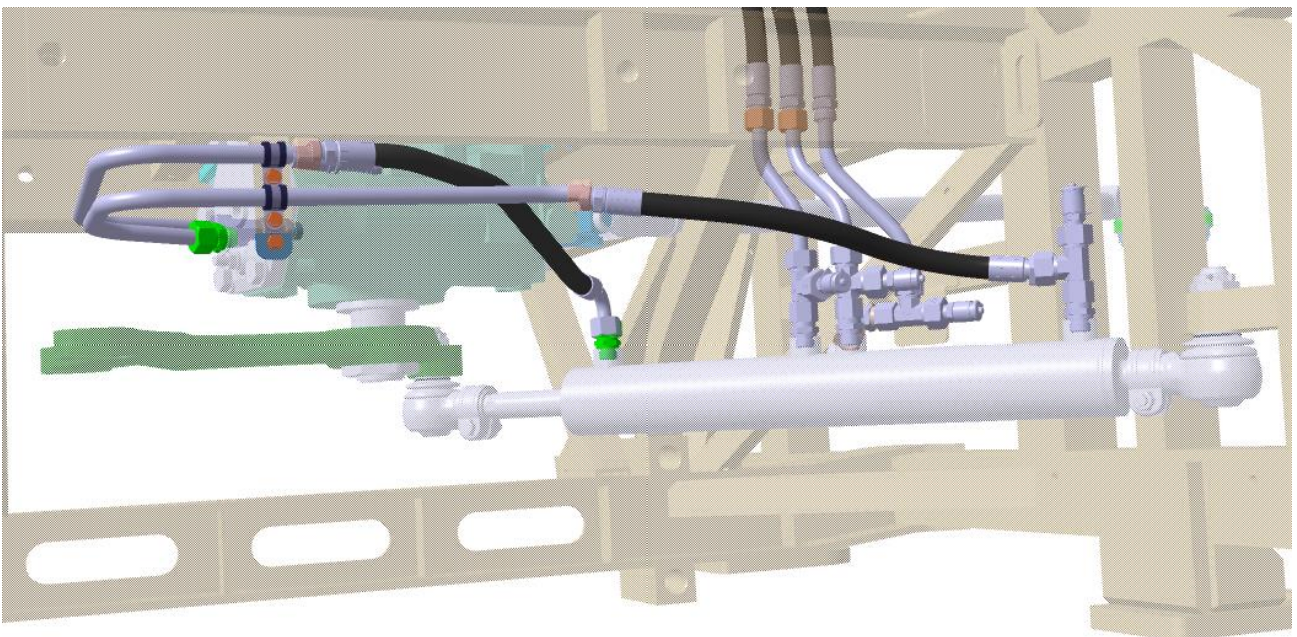

Figure-13
12. Mount 9630-36Y and 9641-28\_247Y as shown in **Figure-13**. (Look at the Note-1 in page 11 for the tightening procedure.) Use new 61102-90000-24Y and 61102-90020-11Y on the RAS cylinder connections. Fix the hose and pipe on the chassis with MH020805Y numbered clip